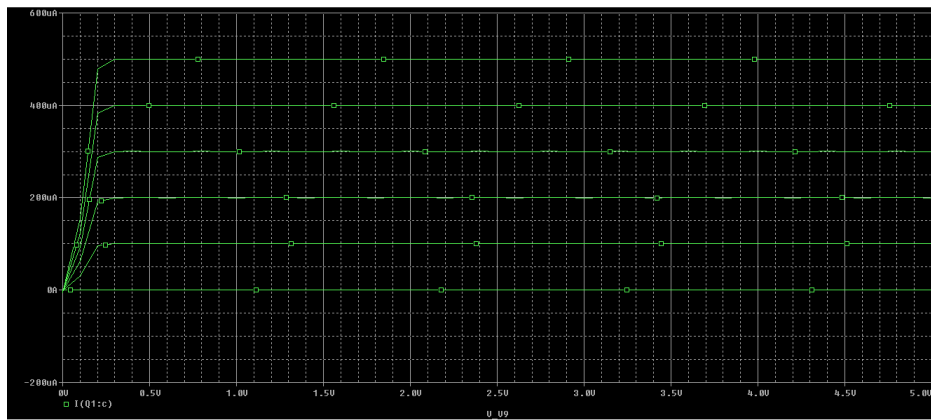

Figure 9: BJT I-V Characteristics Graph
20. Add a trace of the collector current [I(Q1:C)]. The graph should resemble figure 9. Export the data as a csv, but when you export, make sure to add the data from the base current source. During the export stage, click on the icon for the base collector source eg. [I(I1)] and then click add.